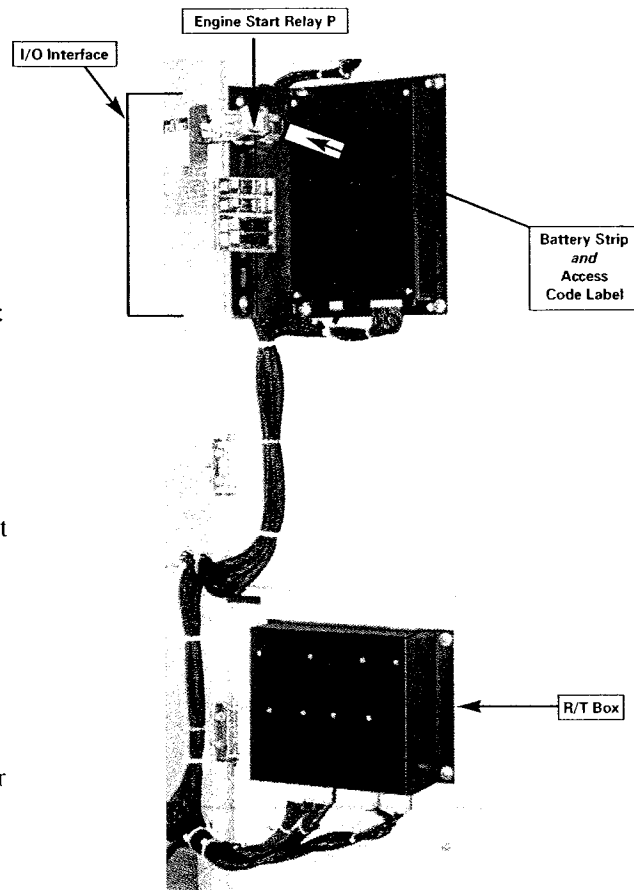

Figure 1
- A. Customer Input and Output (I/O) for system interface. Located on the left hand side of the back of the unit (see figure 1)
II. The *R/T box* (relay transformer box) contains the following: (see figure 1)
Connections for Engine Control are located on the upper left side of the unit (see figure 1). The P relay provides this output. This contact is controlled by the P timer. To change response time to Normal power outage (see page 18 and 20).
Generally the input and output options are located below the P relay on the same DIN rail (see figure 1). In some cases it may be necessary to mount additional accessories on an auxiliary panel.